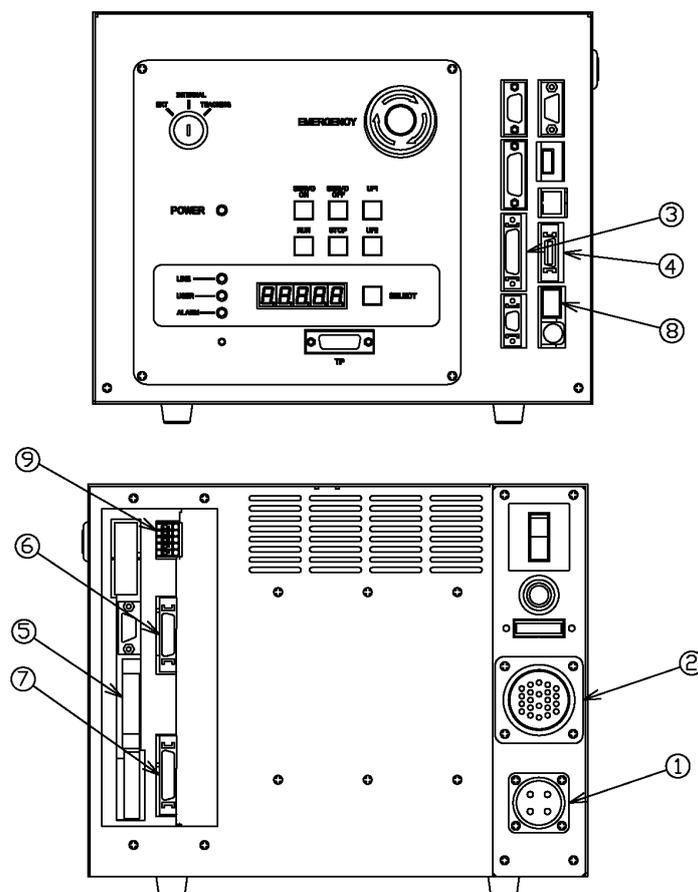
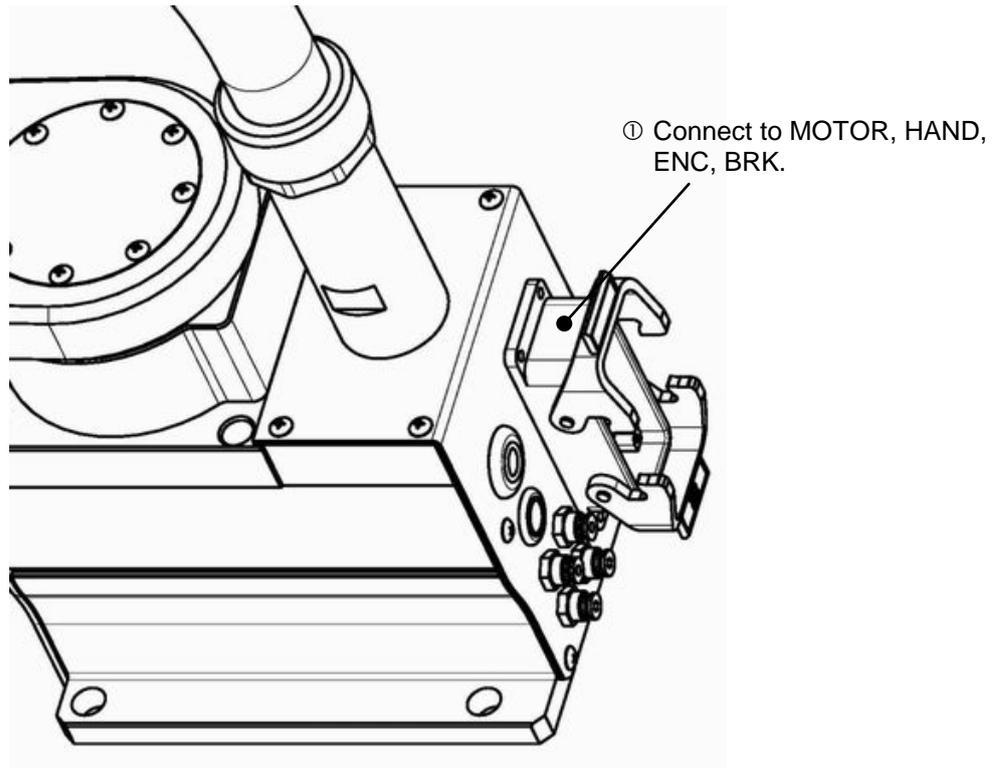

Fig. 4.1 Robot controller connector arrangement
Fig. 4.2 Robot side connector arrangement
The cables connected to the robot controller are shown in Fig. 4.1.
(① of Fig. 4.1; plug connector attached)
The connector is ACIN (① of Fig. 4.1).
(② of Fig. 4.1) (Cable attached)
The connector for connecting the motor cable is MOTOR (② of Fig. 4.1). Location of the motor cable on the robot side is ① in Fig. 4.2.
(③ of Fig. 4.1) (Cable attached)
The connector for connecting the encoder cable is ENC (③ of Fig. 4.1). Location of the encoder cable on the robot side is ② in Fig. 4.2.
(④ of Fig. 4.1) (Cable attached)
The connector for connecting the robot control signal cable is HAND (④ of Fig. 4.1). Location of the robot control signal cable on the robot side is ① in Fig. 4.2.
(Ⓢ of Fig. 4.1) (Cable attached)
The connector for connecting the brake signal cable is BRK (Ⓢ of Fig. 4.1).
The connector for connecting the brake signal cable on the robot side is located at ① in Fig. 4.2.